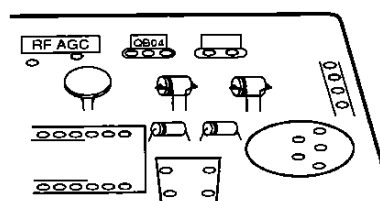

Fig. 11
5. Mount the replacement part so that it does not touch any other parts. (Fig. 11)